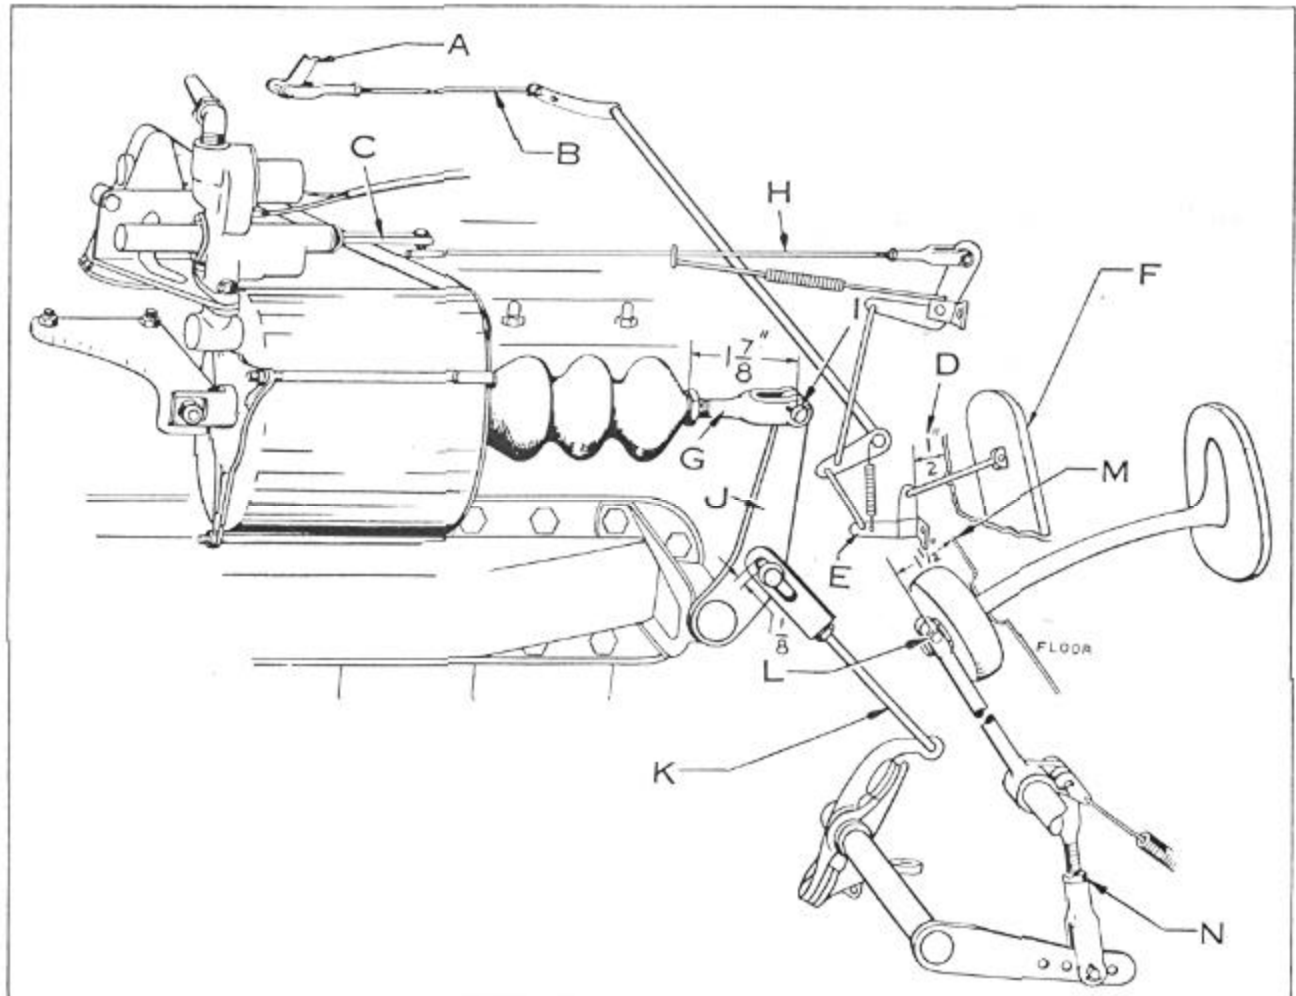

Figure 904—Automatic Clutch Installation with Electric Hand—1937
Adjust piston rod clevis (G), (Figure 904) so that the center of clevis pin (I) is exactly 1-7/8" from the rear end of the piston rod (do not measure to lock nut).
Push accelerator control valve plunger (C) forward with engine dead and pull piston rod backward to limit. Clearance between front end of slot in clevis on rod (K) and clevis pin should be 1/8" as shown (Figure 904).